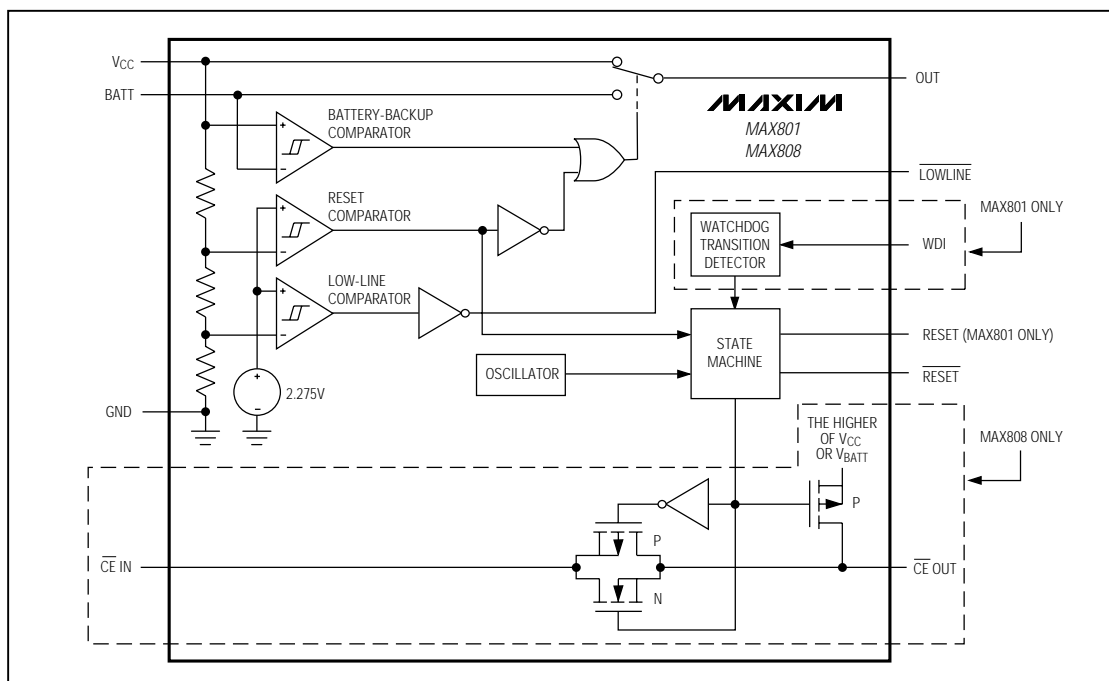

Figure 1. Functional Diagram
The MAX801/MAX808 microprocessor ( $\mu$ P) supervisory circuits provide power-supply monitoring and backup-battery switchover in  $\mu$ P systems. The MAX801 also provides program-execution watchdog functions (Figure 1). Use of BiCMOS technology results in an improved, 1.5% reset-threshold precision while keeping supply currents typically at  $68\mu\text{A}$  ( $48\mu\text{A}$  for the MAX808). The MAX801/MAX808 are intended for battery-powered applications that require high reset-threshold precision, allowing a wide power-supply operating range while preventing the system from operating below its specified voltage range.
The MAX808 provides internal gating of chip-enable (CE) signals to prevent erroneous data from corrupting CMOS RAM in the event of a power failure. During normal operation, the CE gate is enabled and passes all CE transitions. When reset is asserted, this path becomes disabled, preventing erroneous data from corrupting the CMOS RAM. The MAX808 uses a series transmission gate from the chip-enable input ( $\overline{\text{CE IN}}$ ) to the chip-enable output ( $\overline{\text{CE OUT}}$ ) (Figure 1). The 8ns max chip-enable propagation from  $\overline{\text{CE IN}}$  to  $\overline{\text{CE OUT}}$  enables the MAX808 to be used with most  $\mu$ Ps.